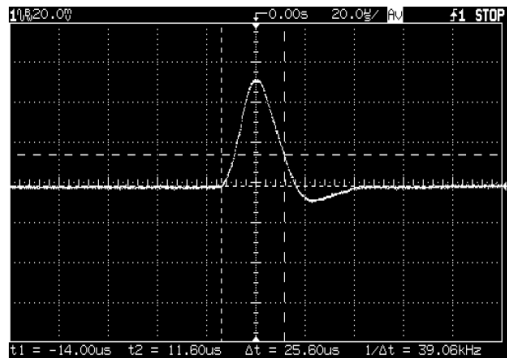

Figure 3-3 Transient response time
- 5 Adjust the oscilloscope to display transients as shown in Figure 3-3. Note that the pulse width ($t_2 - t_1$) of the transients at 15 mV from the base line is no more than 50 μ sec for the output.